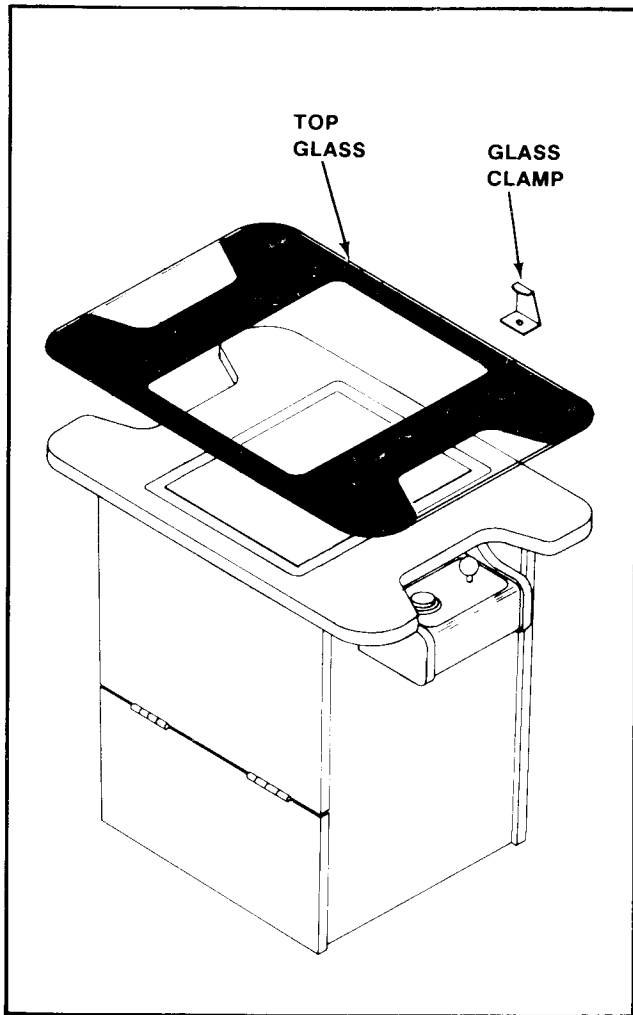

Figure 4-6 Removing the Top Glass & T.V. Bezel — Cocktail
2. COCKTAIL TABLE MODEL: See Figure 4-6.